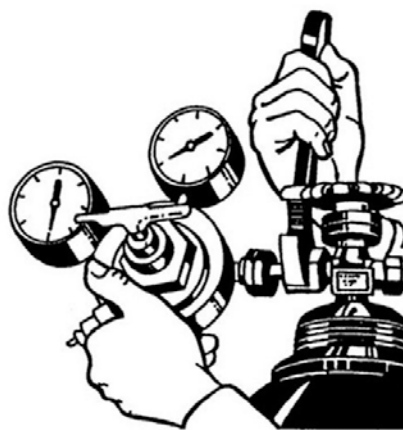

Figure 5-4. Tightening the union nut.
3.	Attach the two-stage regulators to their respective cylinders and tighten the union nut with the torch wrench (fig. 5-4).